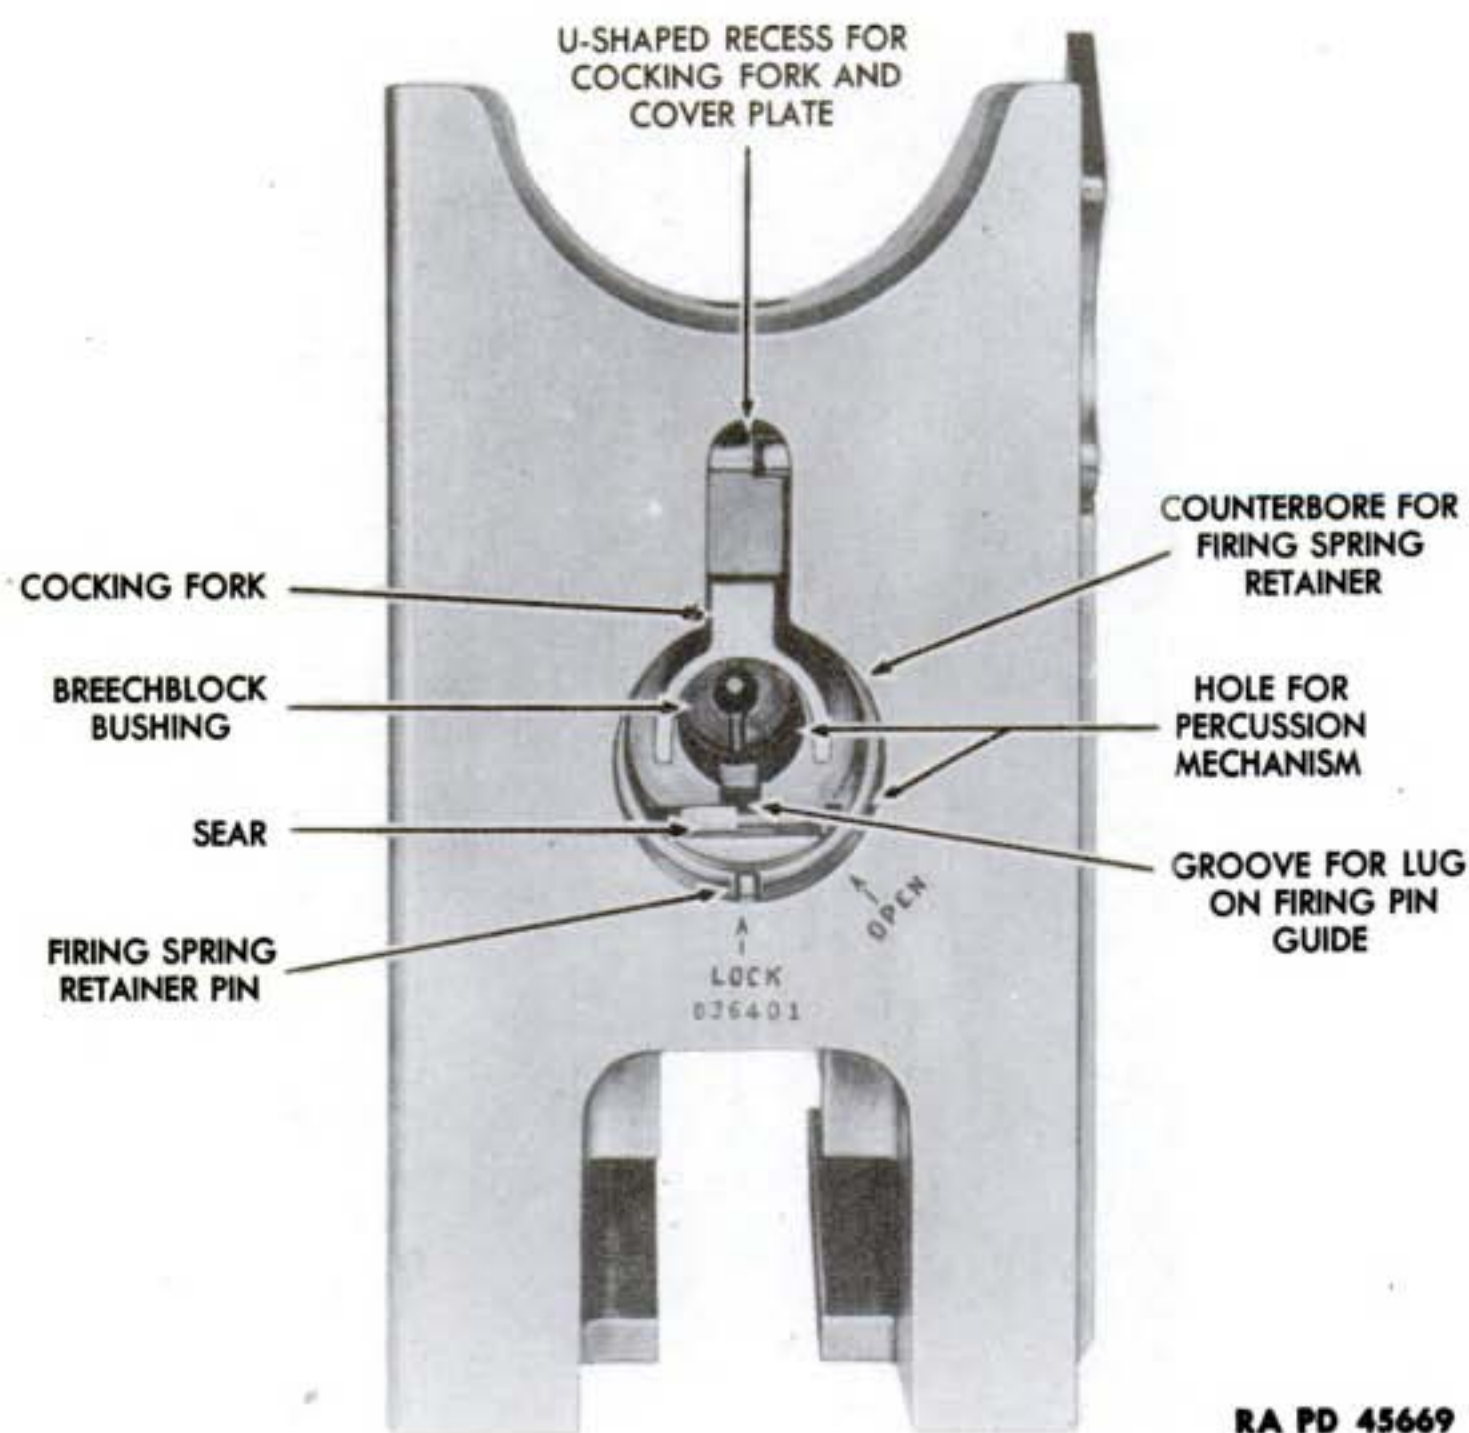
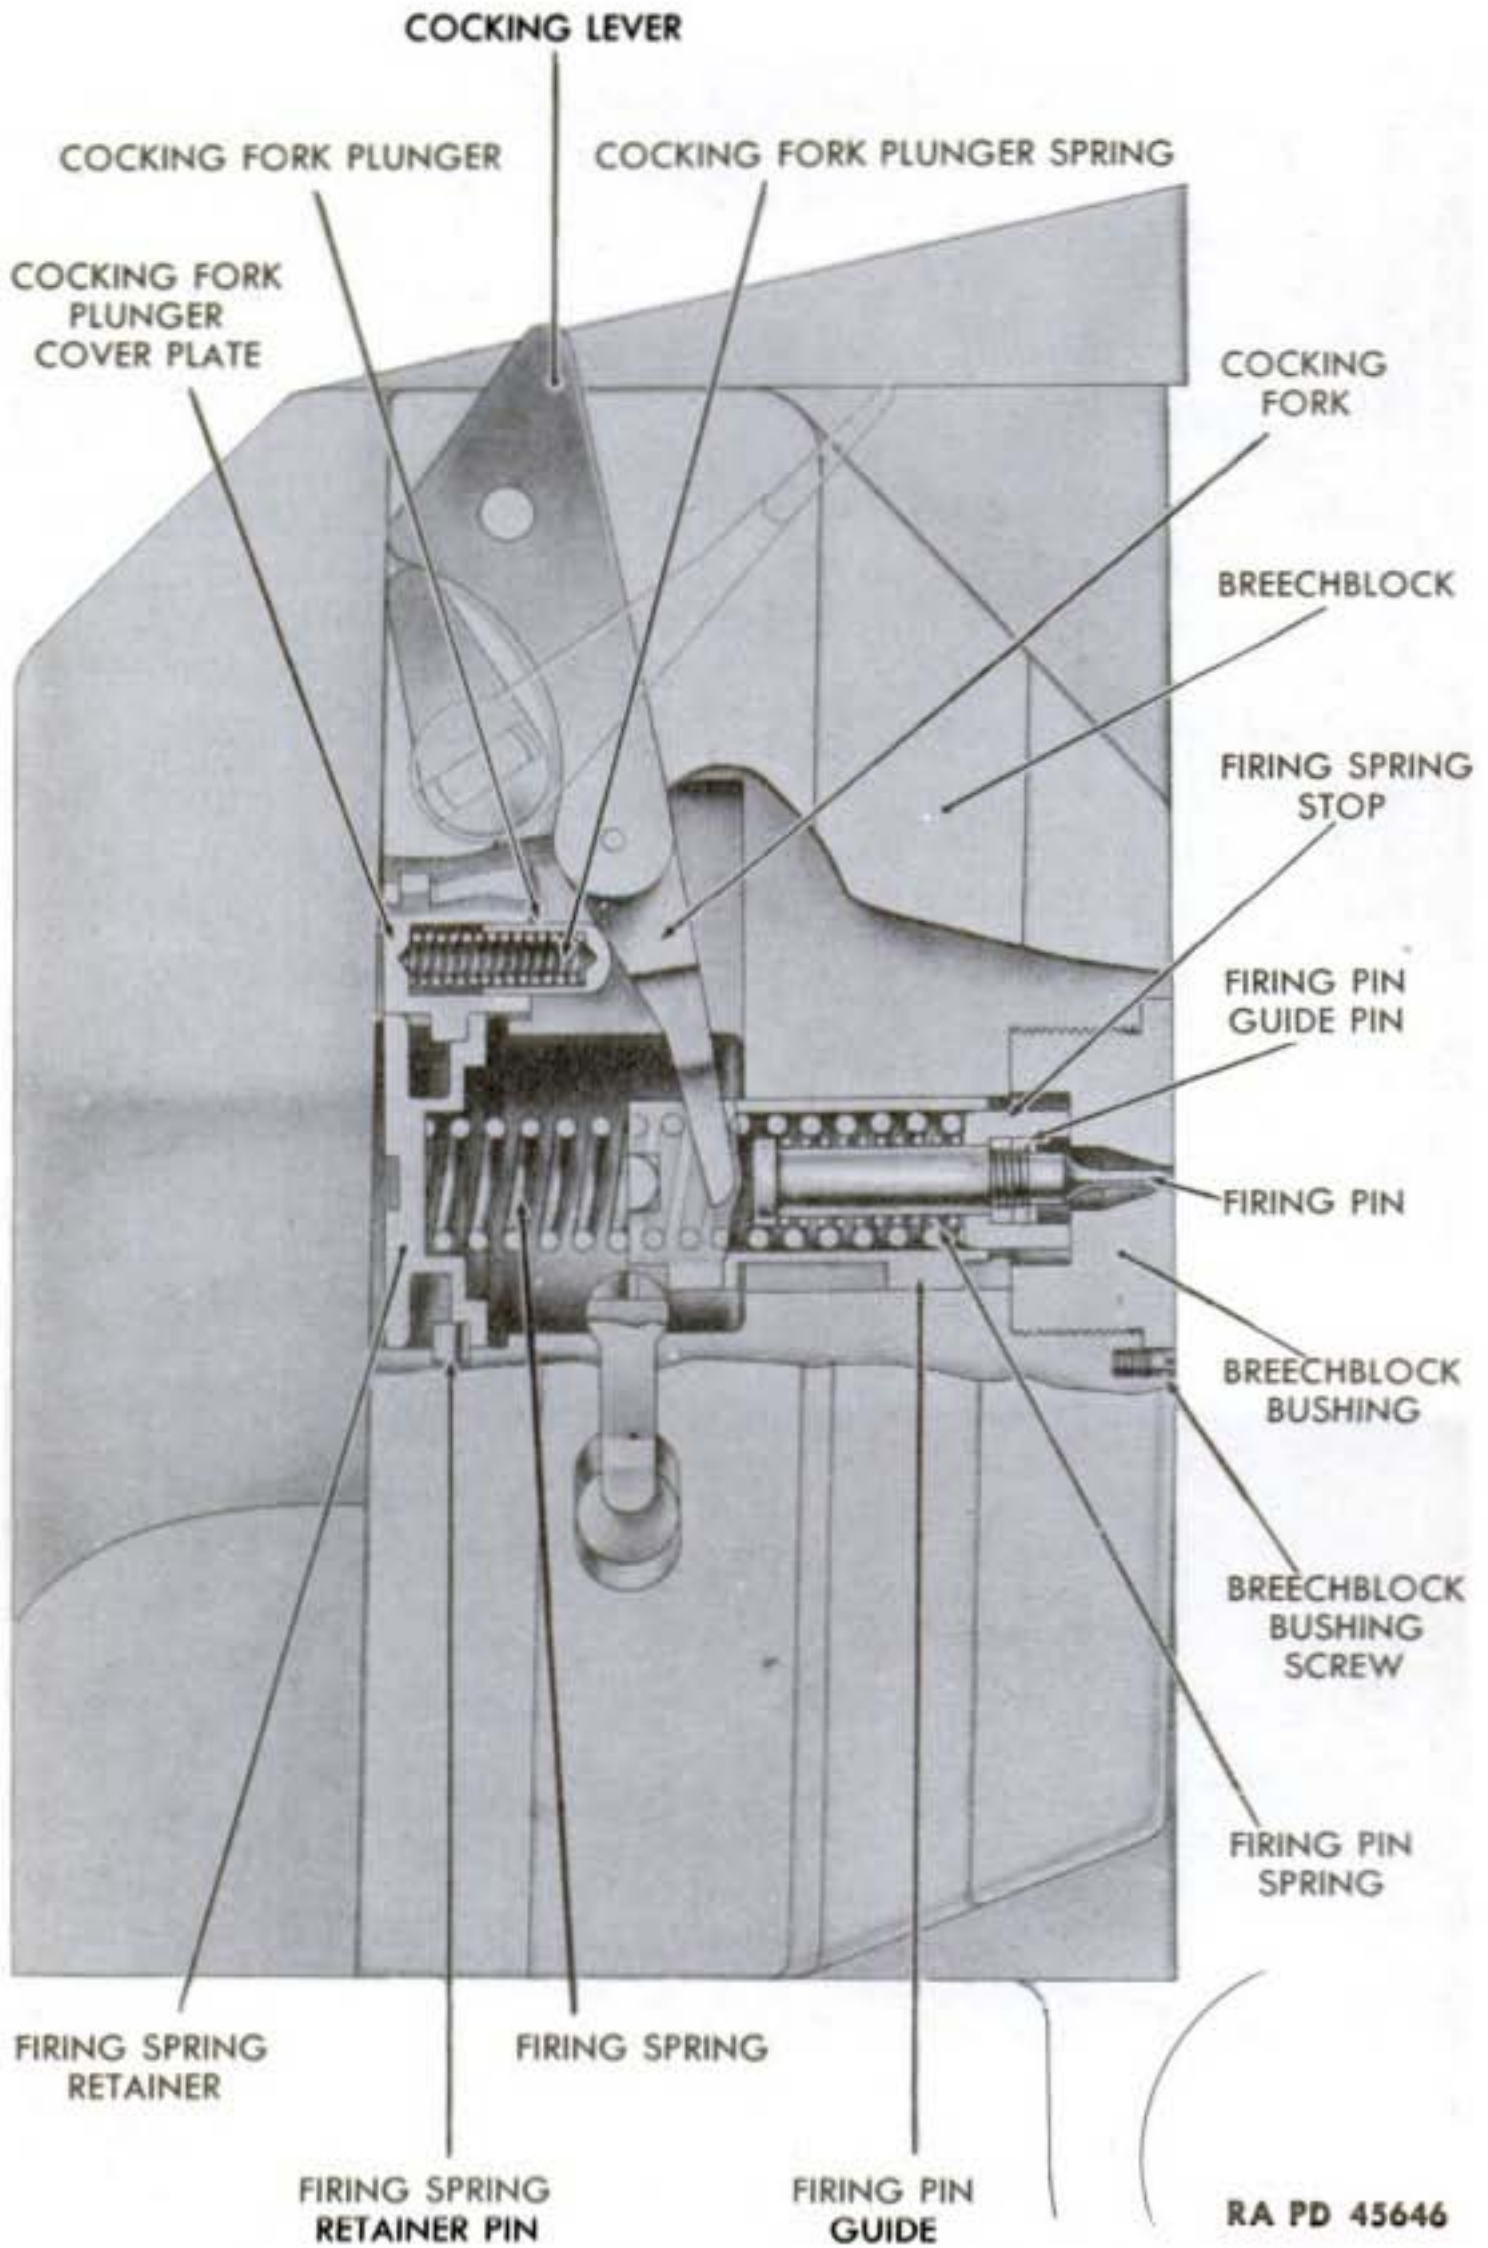

Figure 164—Rear View of Breechblock
Figure 168—Firing Mechanism Assembly
(6) A hole which is bored through the center of the breechblock houses the percussion firing mechanism (fig. 164). The forward end of this hole is counterbored and threaded for a breechblock bushing which is retained in the breechblock by a breechblock bushing screw. The central part of the hole has a longitudinal groove for a lug that is on the firing pin guide; and at the rear of the hole, the breechblock is counterbored to house the firing spring retainer. The upper side of this counterbore has an inverted U-shaped recess to house the cocking fork plunger, spring and cover plate. A small vertical hole in the bottom of the counterbore and toward the rear is for a firing spring retainer pin. This pin and the cover plate lock the firing spring retainer in the breechblock. Arrows are engraved on the rear face of the breechblock to show the "LOCK" and "OPEN" positions of the firing spring retainer.
(7) A transverse hole bored through the breechblock (fig. 163) intersects the lower side of the central bore and is for housing the sear, sear spring, and sear retainer. The left end of this transverse hole is counterbored to form a seat for the U-shaped sear retainer. The right end of the transverse hole has a vertical slot for the arm of the sear (fig. 164).
a. General (fig. 168).
(1) The percussion mechanism consists of the firing pin guide, firing pin, firing pin retracting spring, firing spring stop and firing pin guide pin. The cocking mechanism consists of the cocking lever, cover plate, cocking fork plunger, cocking fork plunger spring and cocking fork.
(2) The firing pin guide is a cylindrical cup which slides backward and forward in the central bore of the breechblock, with the closed end of the guide facing forward. The firing pin guide contains
(3) There are four exterior lugs on the firing pin guide. The larger of the two on the lower side of the guide serves for engagement with the sear, while the smaller lug near the front acts as a guide in the groove of the breechblock bore. Two lugs on the rear of the firing pin guide extend outward so that the cocking fork engages them and thus actuates the guide to cock the gun.
b. Construction (fig. 168).
(1) The firing pin is a shouldered screw having a slotted head and a small cylindrical flat point. The firing pin is installed from the rear end of the firing pin guide and then screwed into the front end of the guide. The firing pin guide pin is inserted through a hole in the firing pin and firing pin guide, thereby securing each part to the other.
(2) The firing spring stop is a ring having two projections protruding from its front face. These projections fit freely in two openings in the front end of the firing pin guide. The firing spring stop is held in a forward position by the firing pin retracting spring. The purpose of the stop is to maintain clearance between the firing pin and the cartridge.
(3) The firing pin retracting spring is a light helical compression spring mounted on the body of the firing pin. The spring bears against the head of the firing pin and against the firing spring stop, maintaining a constant pressure against the stop to force it against the forward end of the firing pin guide.
(4) The firing spring is a helical compression spring extending into the rear end of the firing pin guide and resting against the firing spring stop. The rear end of the spring seats in a recess in the firing spring retainer. The firing spring forces the firing pin guide and firing pin forward to fire the round whenever the sear is released by the act of firing.
(5) The firing spring retainer is a cylindrical plug that closes the rear end of the central bore in the breechblock. The forward end of the retainer is recessed to form a seat for the firing spring. A groove is cut in the circumference of the retainer, forming a front and rear land. The front land is notched to engage a firing spring retainer pin (in breechblock) and also to engage a lug that is on the cover plate. The rear face of the retainer is slotted to facilitate removal and replacement of the retainer. The rear face of the retainer is marked with an arrow on the lower vertical centerline that aligns with the word "OPEN" or the word "LOCK" (on rear face of breechblock) (fig. 164) to remove or install the percussion mechanism.
(6) The sear is a cylindrical bar which slides transversely in the breechblock and engages a lug on the firing pin guide for the purpose of holding the percussion mechanism in its cocked position. The